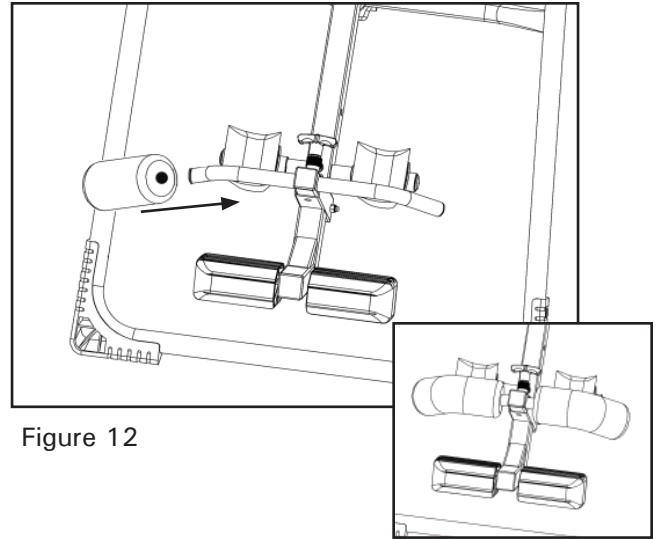

Figure 12
- Slide the Foam rollers over each side of the Front Ankle Bar (Figure 12).